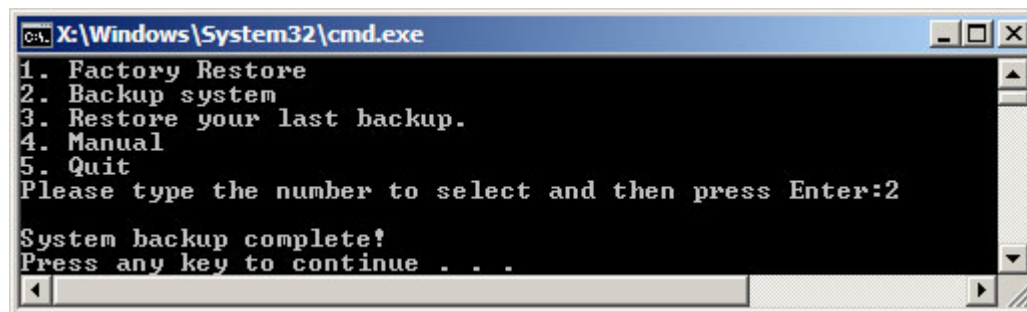

Figure B-27: System Backup Complete Window
Step 14: The screen is shown as in **Figure B-27** when system backup is completed.